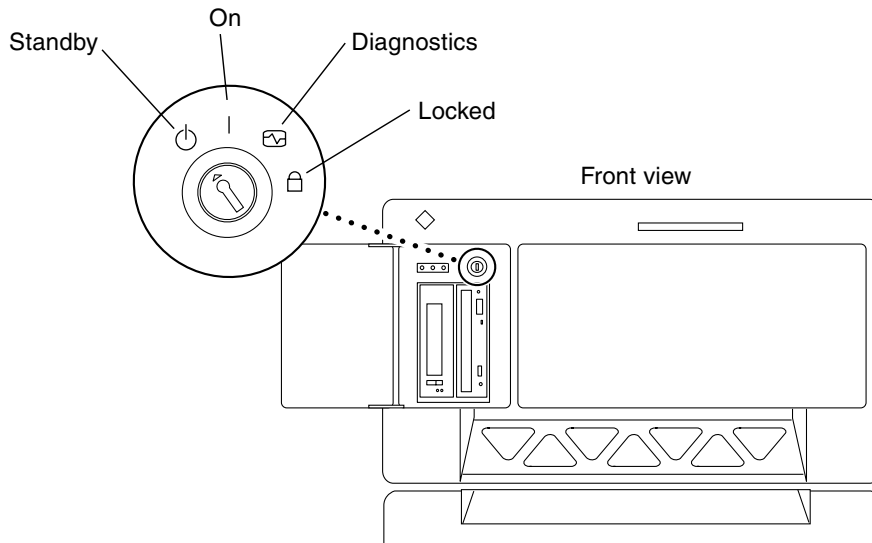

FIGURE 5-1 Sun Enterprise 6x00, 5x00, 4x00, 3x00 Keyswitch Locations
When the switch is set to the Locked position (FIGURE 5-1), the flash PROM is write-protected. When the switch is set to the On position or to the Diagnostics position, the flash PROM is write-enabled.
FIGURE 5-1 shows the keyswitch positions on a 16-slot Sun Enterprise 6000 system. The server systems described in this section have the same keyswitch positions.
1. Turn the keyswitch to the On or Diagnostics position (FIGURE 5-1) before updating the flash PROM.